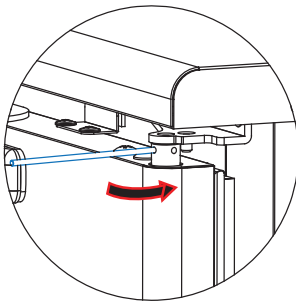

Fig 9-42
4. Take the steel stick and slowly loosen it toward the direction of the arrow. If tension is completely released before the stick touches the body, remove the stick from the shaft and go to the next step. (Fig 9-42)